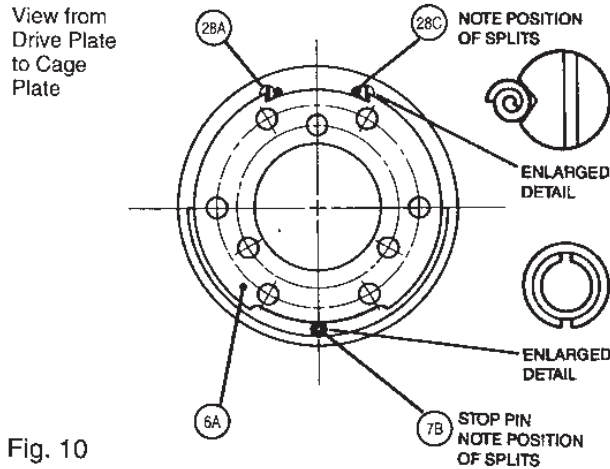

Fig. 10
If the pawl locating pins (28C) are not already in place they should now be carefully fitted after removal of the pawls and springs. Note, the pins must be positioned with the seam away from the pawl, see Fig. 10, (28C). Re-assemble pawls and springs and check that they still have free movement.
- h. On size 1 and 2 SR units, assemble the cage plate spring (6B) onto the hub, ensuring that it is housed in the counterbore in the strut ring, and that the coils are not intertwined. On size 3 and larger, a bayonet type of cage plate retention is used. The cage plate is placed in the slide plate with the stop pin notch 90° to the proper location. The stop pin (7B) should now be installed per Fig. 10. (Note position of splits in rollpins).
- i. Check that the stop pin (7B) is correctly positioned in the slide plate (7) and is not loose or damaged. It should lie flush with the top of the flange of the slide plate.
Size 1 uses a single pin, all other sizes use double pins, see Fig. 10.
The correct angular positioning of this plate relative to the ball seats and pins is most important, see Fig. 10. The cage plate holes must be directly over the ball seatings, and the stop pin (7B) in the slide plate must be central in the cage plate cut-out. Ensure that the plate is not 180 degrees out of position—the stop pin must be centrally positioned in the wider slot.